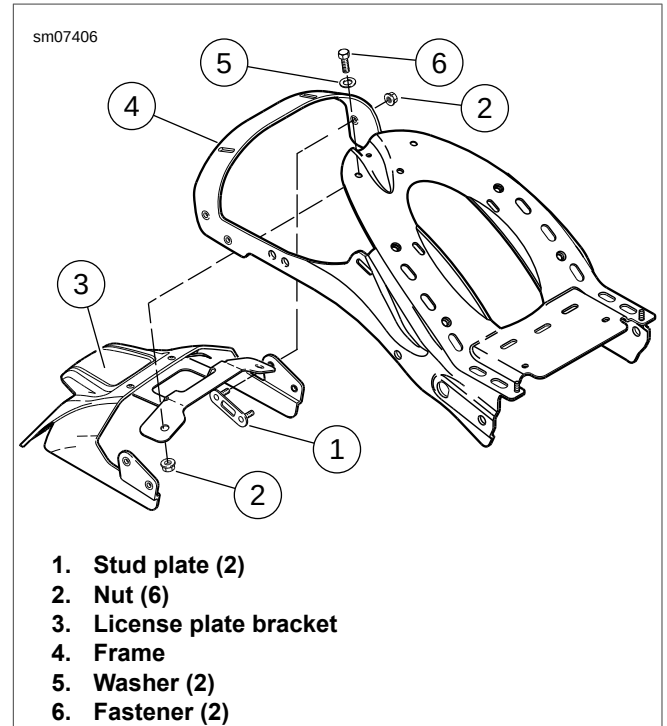
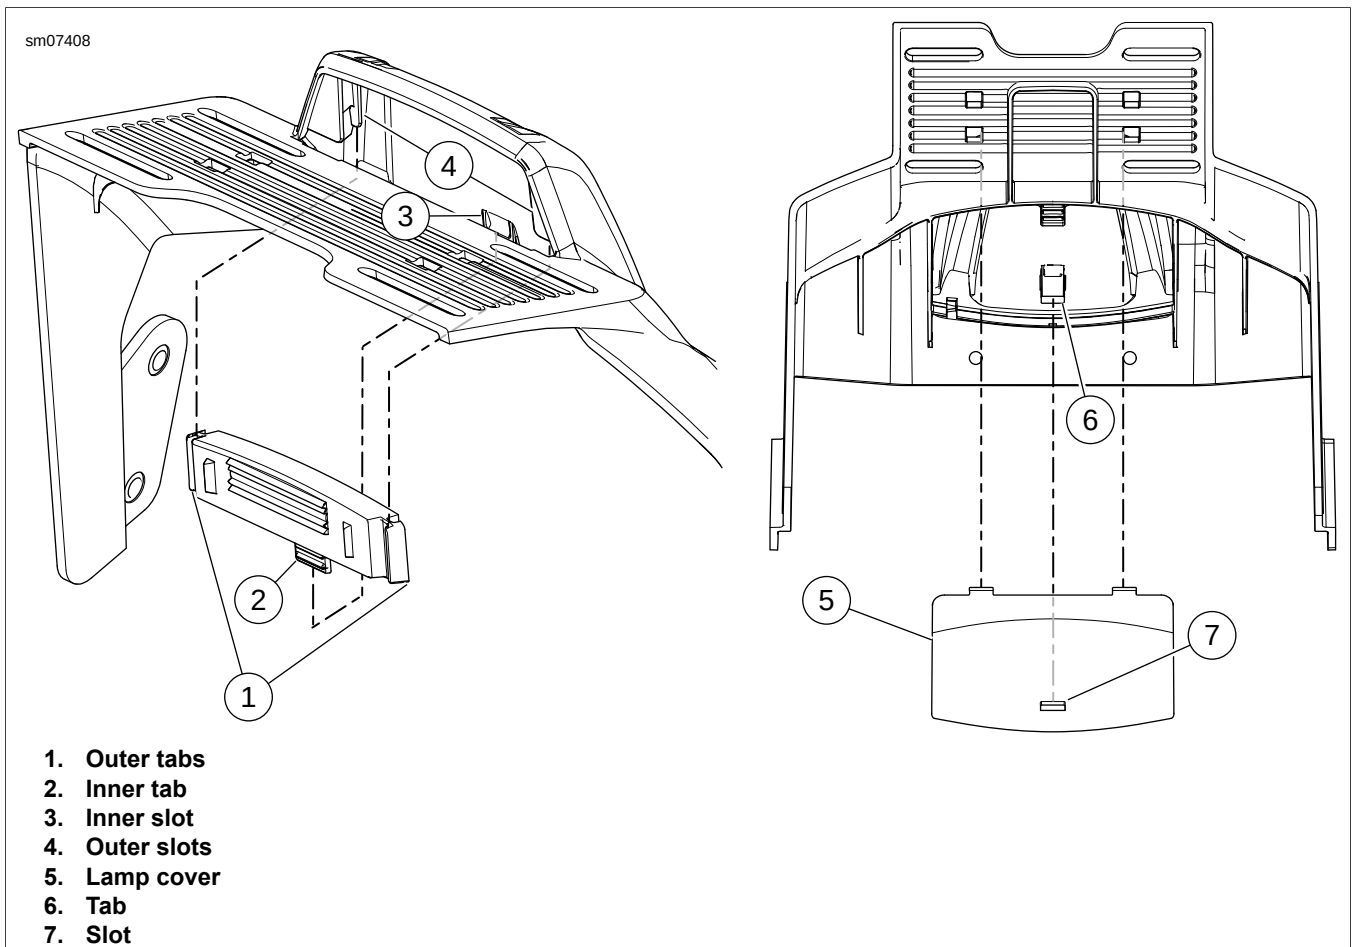

Figure 2-145. License Plate Bracket: VRSCF (Non-US)
Figure 2-146. License Plate Lamp: VRSCF (Non-US)
4. See Figure 2-145. Remove fasteners (6), washers (5) and nuts (2) securing license plate bracket (3) to frame (4).
5. Remove nuts (2) and stud plates (1).
- a. See Figure 2-146. Lift lamp cover (5) slot (7) off of tab (6). Remove lamp cover.
- b. Lift inner tab (2) from inner slot (3) and slide license plate lamp from license plate bracket.
1. See Figure 2-146. Slide **new** license plate lamp into license plate bracket.
- a. Slide outer tabs (1) of license plate lamp on outer slots (4) of license plate bracket.
- b. Install lamp until inner tab (2) engages inner slot (3).
2. See Figure 2-145. Place license plate bracket in position under frame.
3. Install stud plates (1) and nuts (2). Do not tighten.
4. Install washers (5), fasteners (6) and nuts (2). Tighten to 8-12 Nm (70.7-106.1 **in-lbs**).